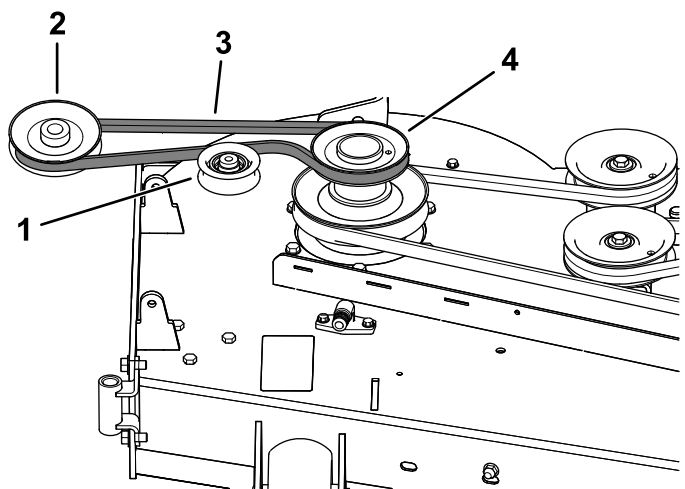
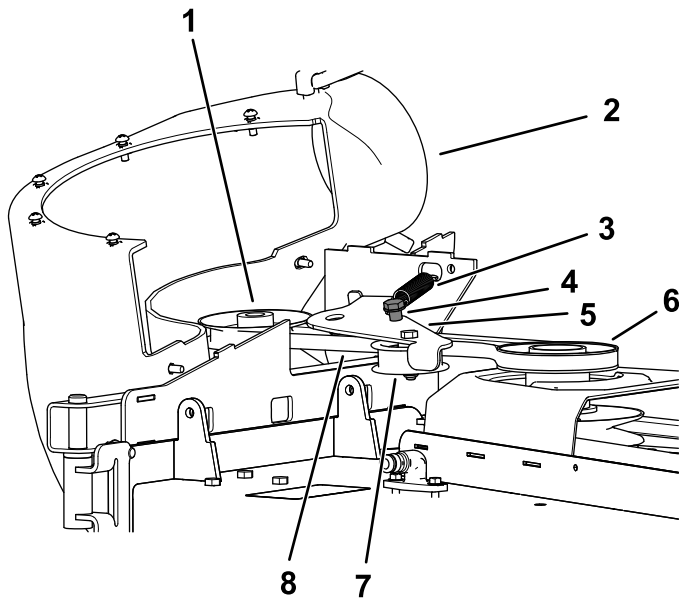

Figure 25
Figure 26
1. If necessary, install the belt onto the blower pulley (Figure 25).
1. Install the belt around the blower pulley (Figure 25 and Figure 26); refer to 10 Installing the Blower Assembly \(page 14\).
3. Pull the spring loaded idler pulley away from the fixed spring post, and route the belt around the mower deck pulley (Figure 26).
4. Route the belt around the drive pulley as illustrated in Figure 25 and Figure 26.